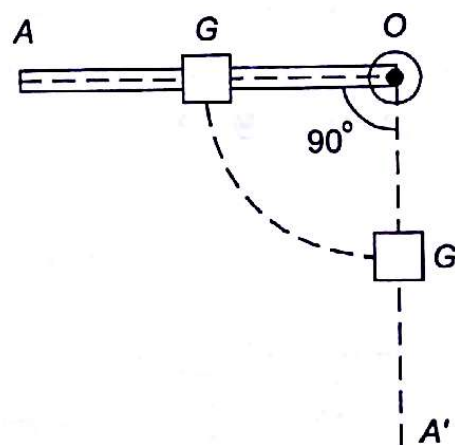

Fig. 19.20
- 19.6 A slender rod OA, hinged at O, of length 1 m is of mass 4 kg and a collar of mass 2 kg is attached to the centre of the rod. Horizontal position shown is at rest. Rod is released and reaches vertical position, what is angular speed of rod in vertical position (Fig. 19.20)?